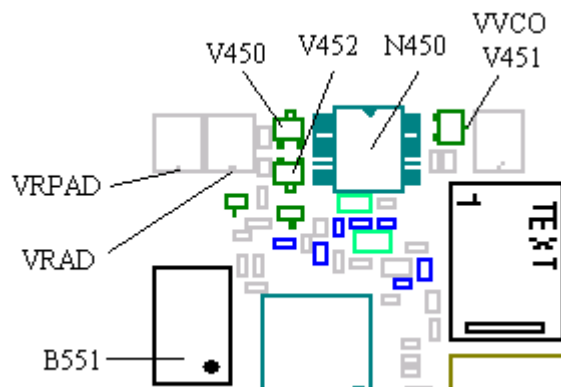

Fig. 3.6
- If it's lower, replace N450 (class A, fig. 3.6) and try again.
Check VRAD, VVCO and VRPAD (~3.8V, fig. 3.6).